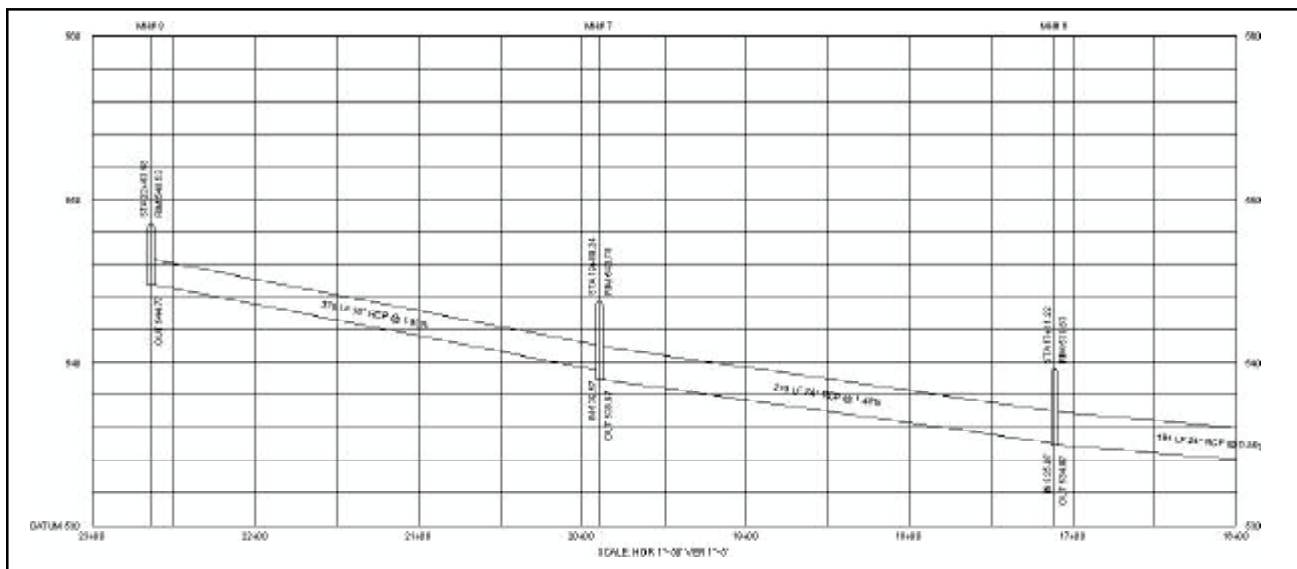

Figure 23 - Profile Of Cut out Sheet 2
- In **Step 14** and **Step 15** substitute **Sheet 2 of Profile 1** for **Sheet 1 of Profile 1**. See Figure 23.
9. **Scroll** down to the bottom of the TOC, **right-click** at the label of the data frame **Sheet 2 of Profile 1**, and **select** the Activate command to display the profile of the second sheet (see Figure 23).